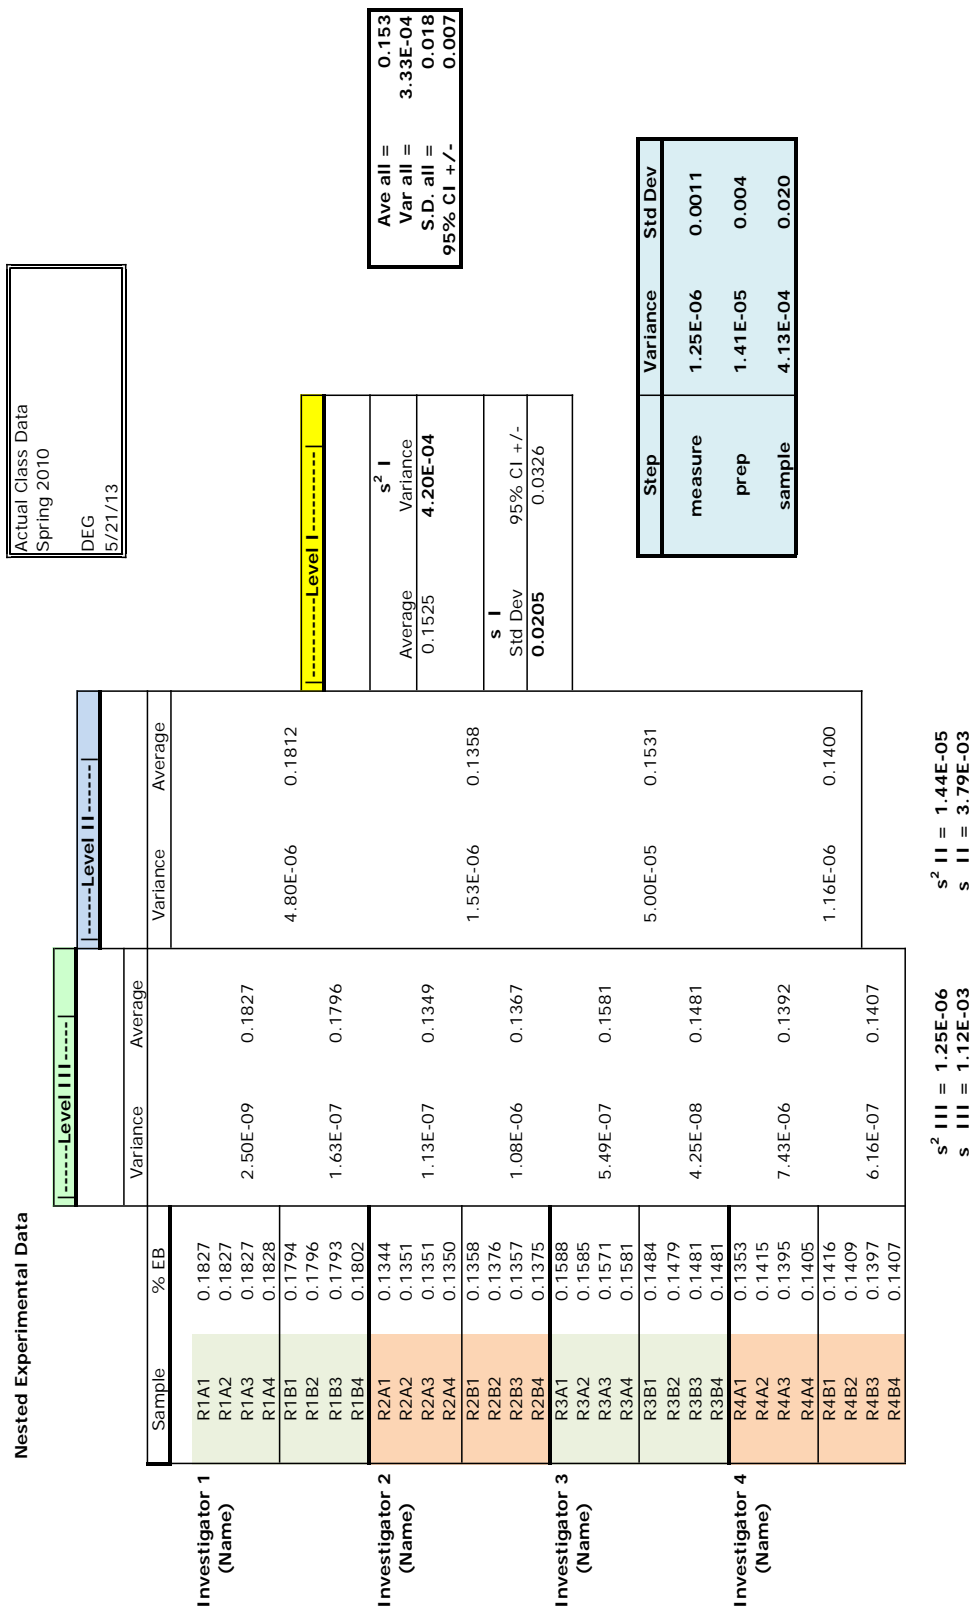

Figure 1. Spreadsheet illustrating nested experimental data and calculations.
For this experiment, the three steps of your analysis will consist of (i) sampling a solid, (ii) dissolving the sample in a solvent, and (iii) measuring the absorbance with a spectrophotometer. The magnitude of the variance for each step will be investigated using a three-level nested design experiment. In Level I, several independent samples are taken of a solid. Subsamples of each sample are independently prepared for analysis in Level II, and several independent measurements are made on each subsample in Level III. Data from such an experiment are shown in the accompanying spreadsheet in Figure 1.
In order to assess the sources of error in this experiment, you must determine the standard deviations of measurement at each stage of the process: s_{samp} , s_{prep} , and s_{meas} . This determination will require a sequence of calculations that are best carried out with a spreadsheet. The data needed to construct the example spreadsheet in Figure 1 will be provided by the instructor; you should build the example spreadsheet using the procedure detailed below and then populate the spreadsheet with your data. In this procedure you will work systematically from Level III to Level I of the spreadsheet, and in the process find s_{samp} , s_{prep} , and s_{meas} .
In equation (3), $d3_{i,j}$ are the deviations from the mean for each percent ErB value within set i of replicate aliquots, and $n = 4$, the **number of replicates in each set**. Therefore, in your spreadsheet you can use the statistical functions in Excel to calculate the average and variance for each set of replicate aliquots (Level III columns in Figure 1).
Here, s_k^2 is the variance for a related pair of replicate averages, like R1A and R1B. Note that $d2_{k,l}$ is the difference between one of the replicate averages (e.g., R1A) and the average of the two subsamples, (R1A and R1B). Since there are only two values in this variance calculation, the sum of the squares is divided by $2 - 1 = 1$ (Level II columns in Figure 1).
Calculate the corresponding *standard deviation in sampling* by simply taking the square root of the variance (Level I columns in Figure 1).